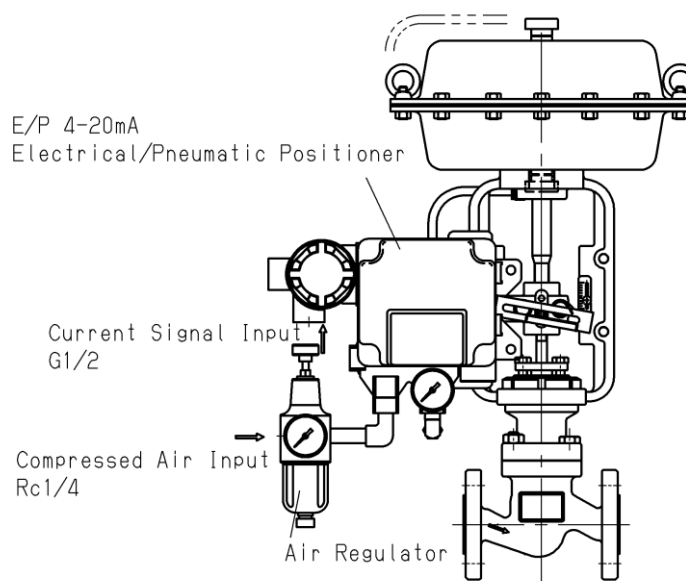

Fig.9
•When purchasing the goods with accessories, it is delivered by the structure with shown in Fig.9. Please draw the signal cable from the external DC signal connection port shown in Fig.9. Connection way is 2 wire type. Please confirm and do wire the DC 4-20mA with the external signal line.